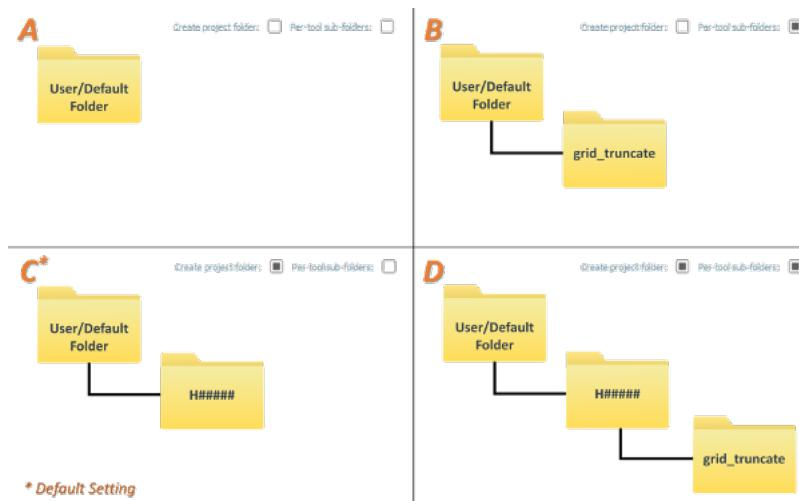

Fig. 2.63: The resulting folder structure based on the four available combinations of output flags.
- No flags set (see Fig. 2.63, pane A). The outputs are stored directly under the default or user-defined location.
- Only the **Per-tool sub-folders** flag set (see Fig. 2.63, pane B). The outputs are stored in a tool-specific sub-folder (in the default or user defined-location).
- Only the **Create project folder** flag set (see Fig. 2.63, pane C). The outputs are stored in a survey folder (in the default or user defined-location). *This is the default setting.*
- Both flags set (see Fig. 2.63, pane D). The outputs are stored in tool-specific sub-folders in a survey folder (in the default or user defined-location).